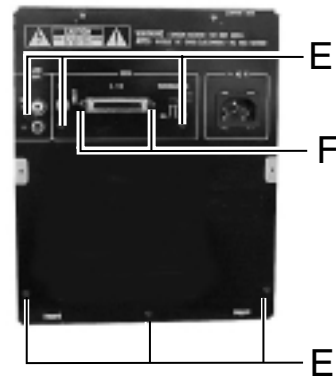

Fig. 6
As shown in Fig. 6, the recording areas of a CD-ROM and a CD-R/RW are different. These discs use two recording areas in addition to the areas used for data recording by ordinary CD discs.
[Fig. 6]
3. Remove the 6 screws E from the rear panel (Fig. 6).